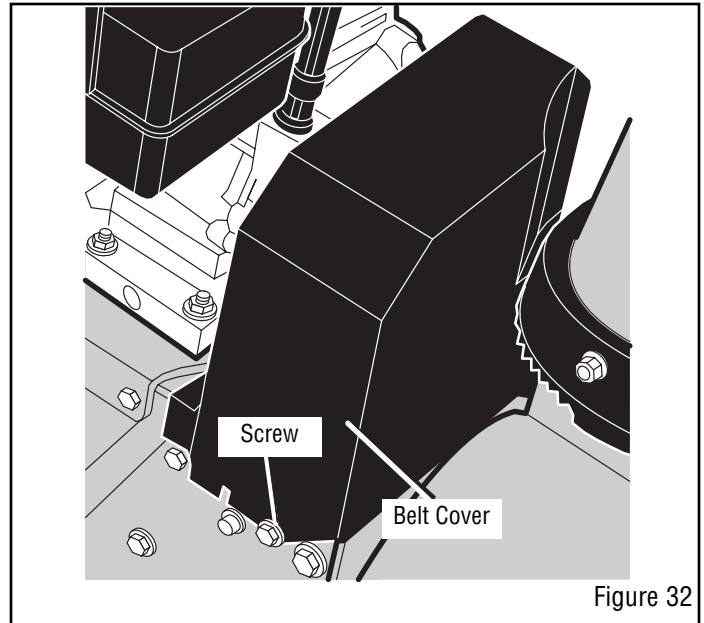

Figure 32
2. Remove **screw** from **belt cover**. Remove **belt cover** (see Figure 32).
4. Remove **screw** from **belt cover**. Remove the **belt cover** (see Figure 32).
16. Install the **belt cover**. Tighten **screw** (see Figure 32).
15. Install the **belt cover**. Tighten **screw** (see Figure 32).